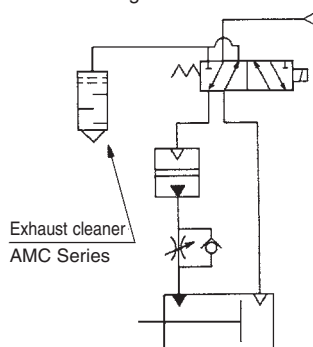

Figure 6
3. Leakage associated with the sliding movement inevitably occurs. In particular, with the single side hydro unit, the operating oil that leaks to the pneumatic side will be discharged from the switching valve, thus soiling the switching valve. Thus, install an exhaust cleaner (AMC Series). (Fig.6)